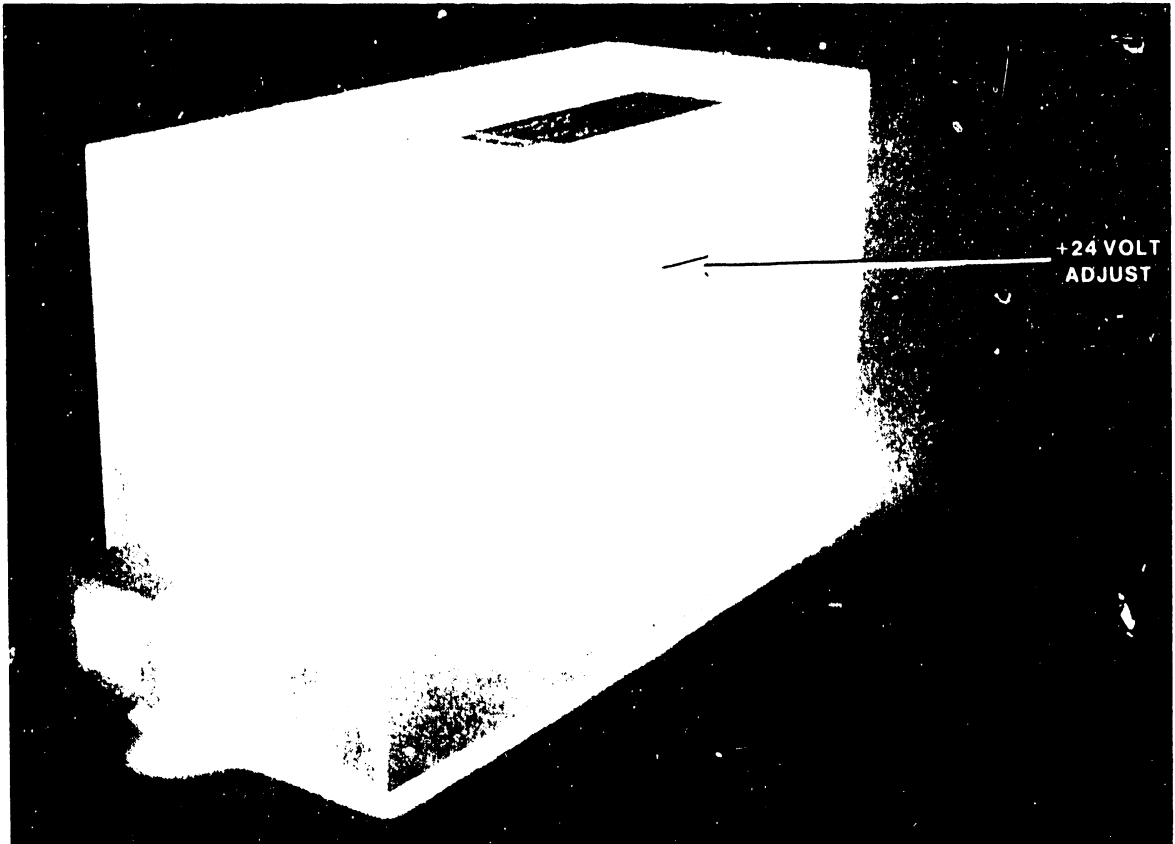

Figure C-4. Right Side View of Power Supply
7. With a nonmetallic adjustment tool, adjust the voltage(s) to within the operating limits and reinstall the power supply. (See figures C-4 and C-5 for the locations of the adjustment pots.)